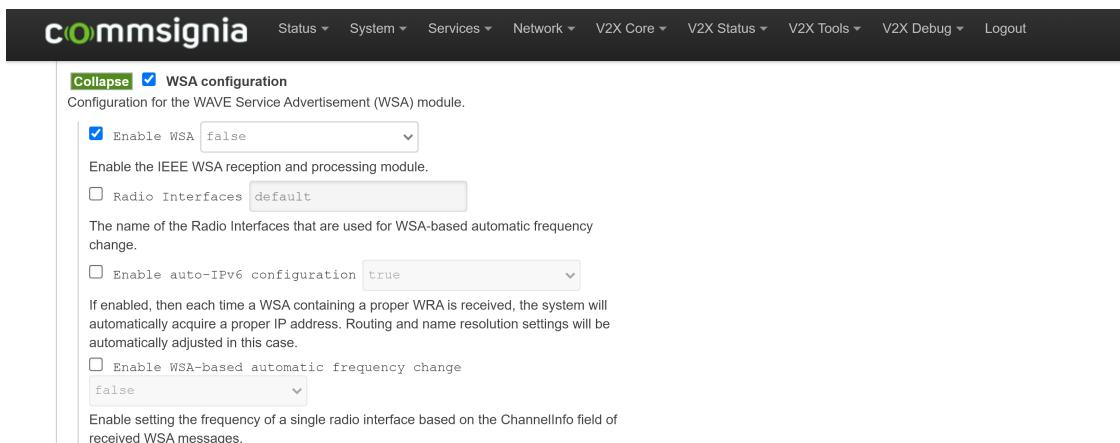

Figure 47. WSA configuration
4. WAVE Service Advertisement (WSA) messages contain an IPv6 prefix range assigned to the RSU and the OBUs allocate an IPv6 address from that range upon receiving a WSA. Minimum /64 prefix is required for the OBUs. This address is a global IPv6 address that can be routed to and can be accessed from the Internet. WSA messages also contain the DNS address and the default gateway (this is typically the address of the RSU). The WSA Rx module must be turned off on the RSU, to avoid receiving another WSA from a nearby RSU. Under the **V2X Core** → **Core stack** menu item expand and check the box next to **WSA configuration**, as shown in Figure 47.